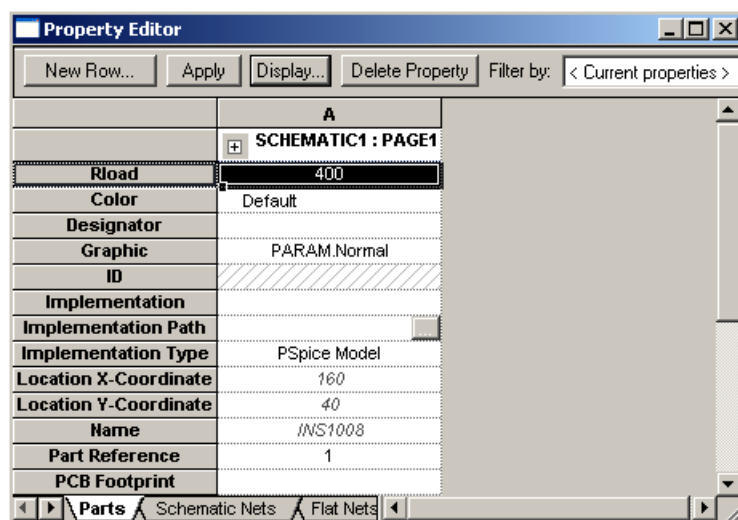

Figure 19. Property editor for a parameter block. A new parameter Rload has been added with a default value of 400.
- Double-click the PARAM block or right-click it and choose the Edit Properties... contextual menu item. This brings up the Property Editor or spreadsheet for the component, shown in figure 19 on page 16. Sometimes it comes up as a row rather than a column. If this happens, right-click in the empty cell at the top left (to the left of A) and choose Pivot.